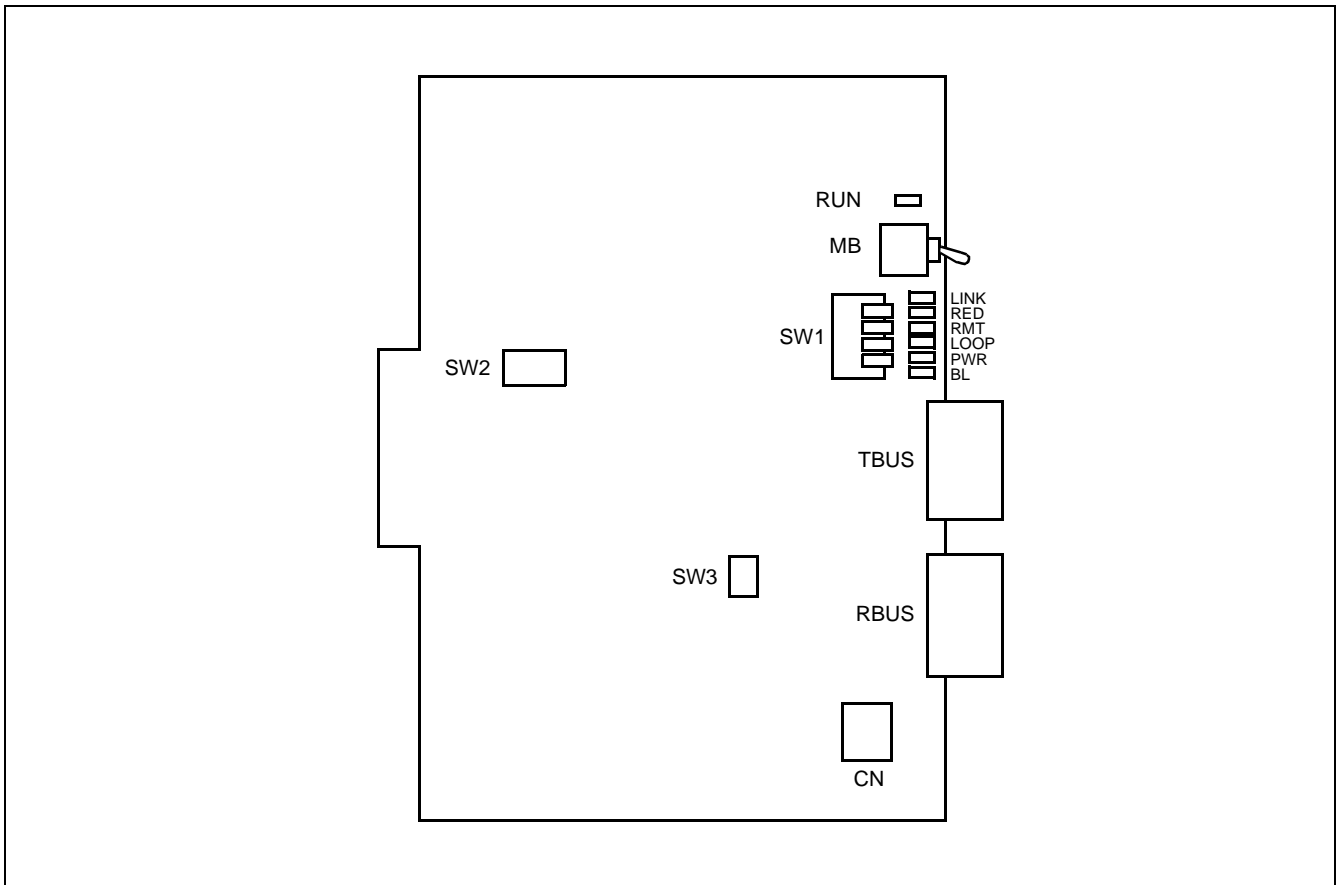

Figure 3-7 PN-DAIC Card
(1) Location of Lamps, Switches, and Connectors (See Figure 3-7.)